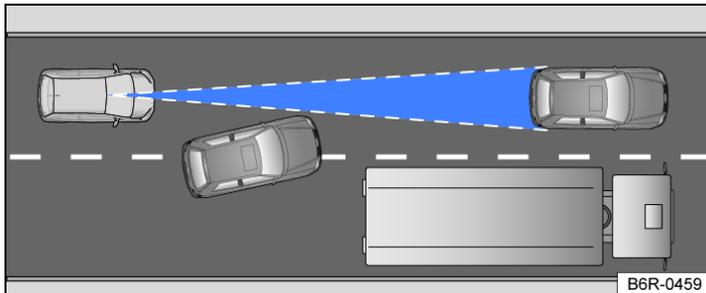

Fig. 2 Vehicle changes lane.
- Vehicles that change into your lane directly in front of your vehicle → Fig. 2.